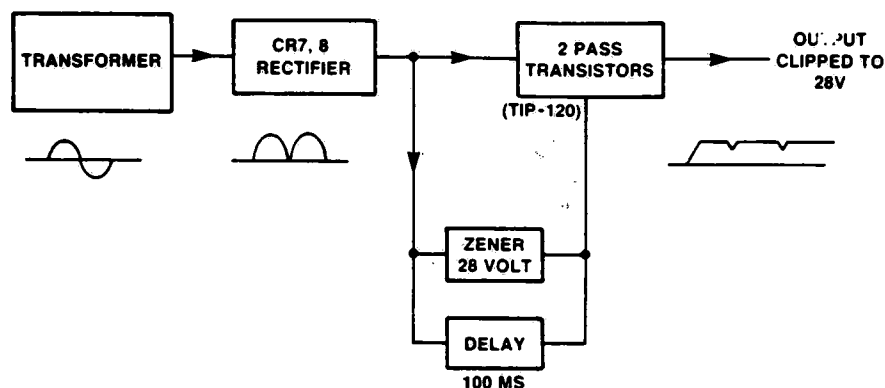

Figure 3-17. PRINTCON 28-VOLT POWER SUPPLY.
6. The +28 VDC power supply operates as follows: Voltage from the full wave rectifier (CR7 and CR8) is filtered by C5. This filtered circuit provides voltage to series pass transistors Q6 and A7 through fuse A4. The series pass transistors operate in parallel and are equalized by R11 and R12. The base reference voltage is provided by R13 and zener Z4, near 28 volts. R13 and C10 provide a slight delay on power turn on (Figure 3-17).